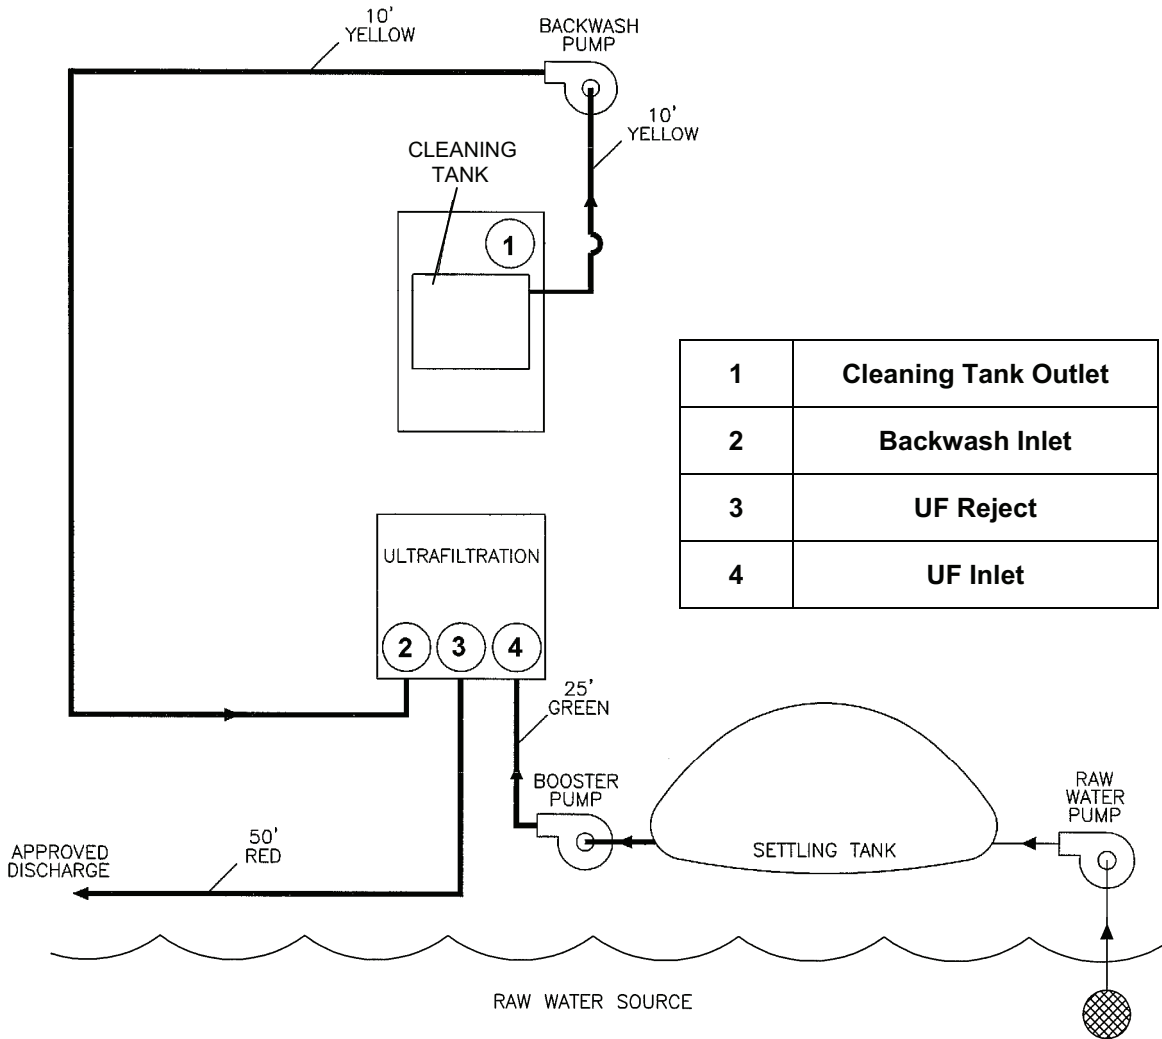

Figure 4. Maintenance Cleaning Diagram.
15. Reconnect the backwash inlet hose to the UF module. See Figure 4 for cleaning diagram.